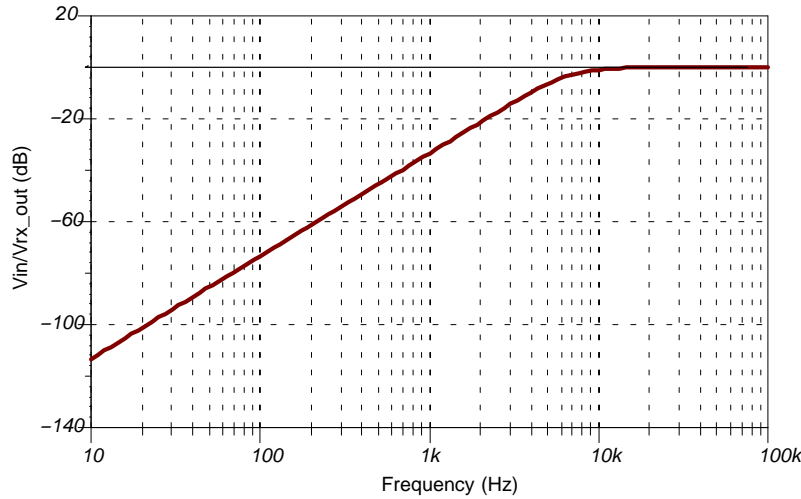

Figure 22. Transfer Function of the 50 Hz Suppression Circuit shown in Figure 17
74.5 kHz; the resulting frequency response is shown in Figure 22. With a good layout, suppressing the residual mains voltage (50 or 60 Hz) with 60 dB is feasible. To design a filter for other frequencies, consult the design manual.